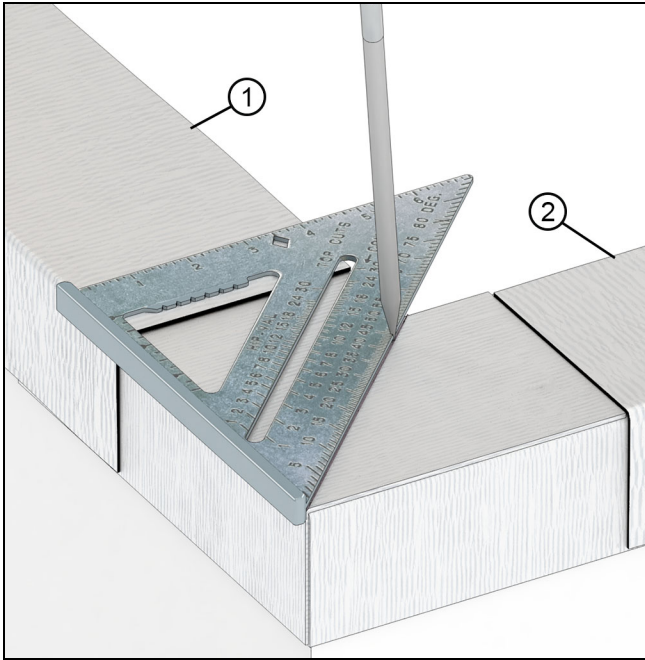

Figure 28
14. Draw a 45 degree angle onto the sill of the rough opening to reference the meeting line for Leg Assembly 1 and Leg Assembly 2. See Figure 28.